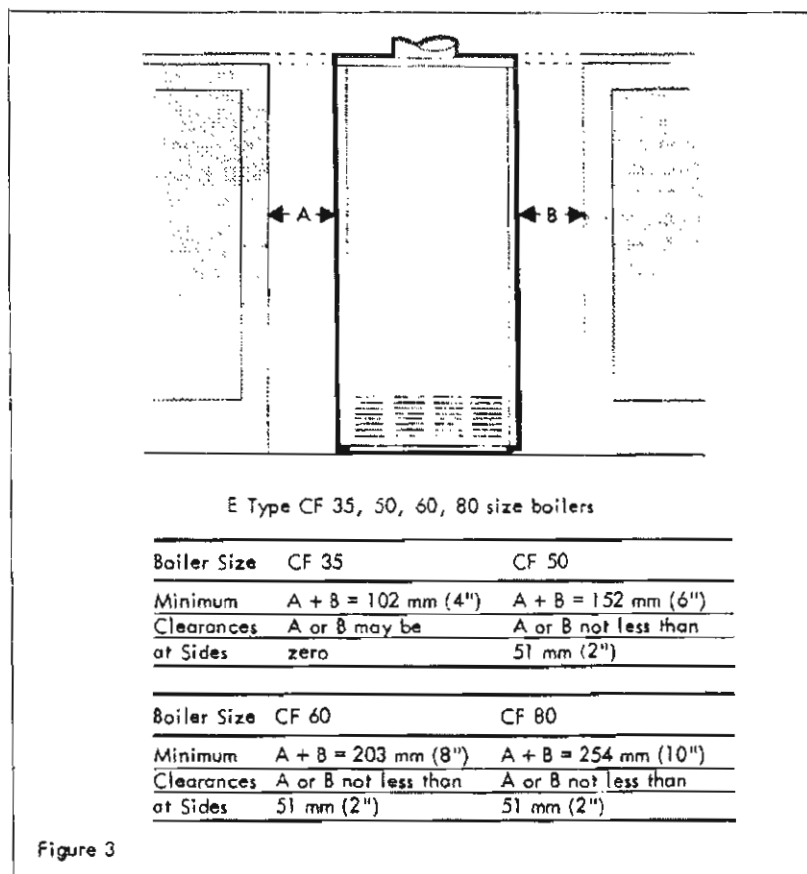

Figure 3
4. Installation Adjacent to Fixtures (see Figs. 3 and 3A).
To ensure correct operation of the diverter, clearances between the cabinet and adjacent fixtures at the sides MUST comply with the requirements shown in Fig.3. The space between the cabinet sides and fixtures may be bridged if desired AT CABINET TOP LEVEL as shown in Fig.3.